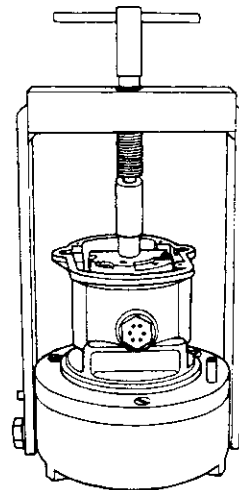

Figure 7.2.1
- Place T-151 cam and rotor set onto the end of the rotor shaft and turn T-handle until the shaft bottoms in magneto frame. (See Figure 7.2.1).